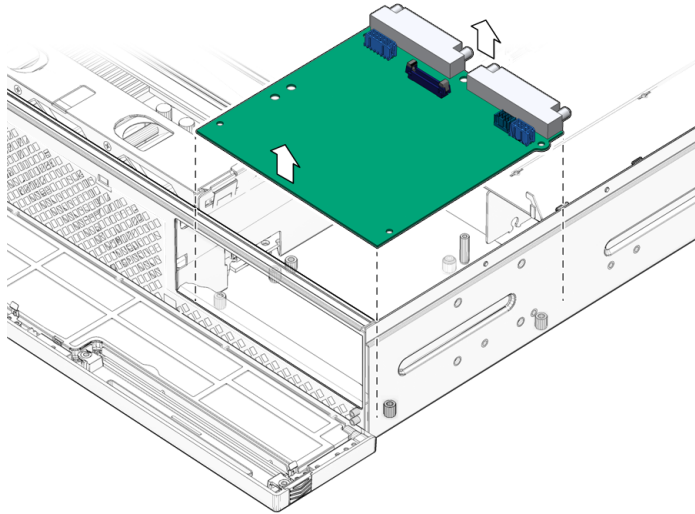

FIGURE 3-74 Lifting the Power Board From the Chassis
4. Lift the power board out of the chassis and set it aside on an antistatic mat (FIGURE 3-74).